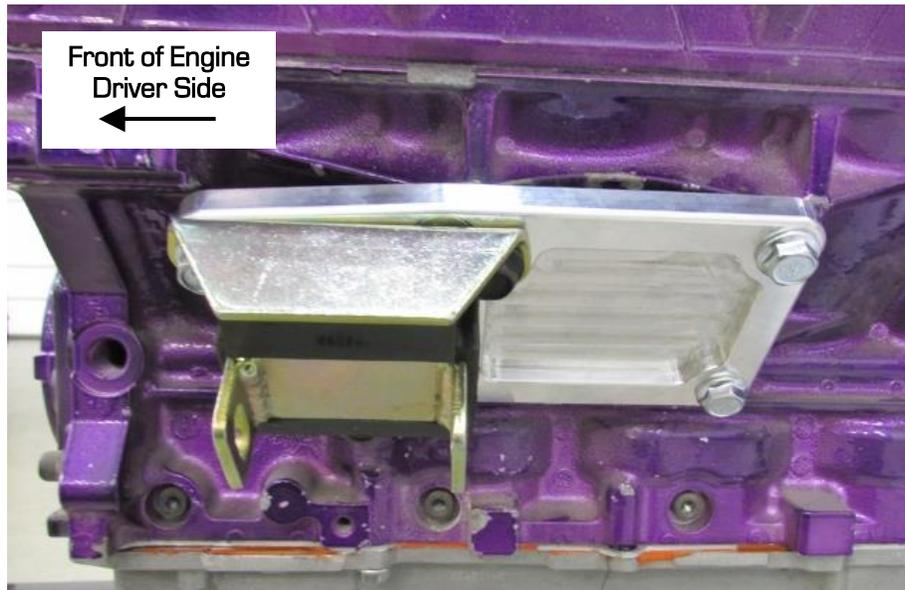

Figure 2 - Install Engine Mount
4. Install the engine mounts to the adapter plates by using two M10-1.5 x 16mm flange head (#6) bolts in the top of the mount and one M10-1.5 x 25mm flange head bolt (#5) in the bottom of the mount. Use anti-seize on these bolts. Torque the upper bolts into the adapter plate to 25 ft.-lbs. For the lower bolt, torque to 25 ft.-lbs. on an aluminum block and 35 ft.-lbs. on a cast iron block (Figure 2 on the next page).